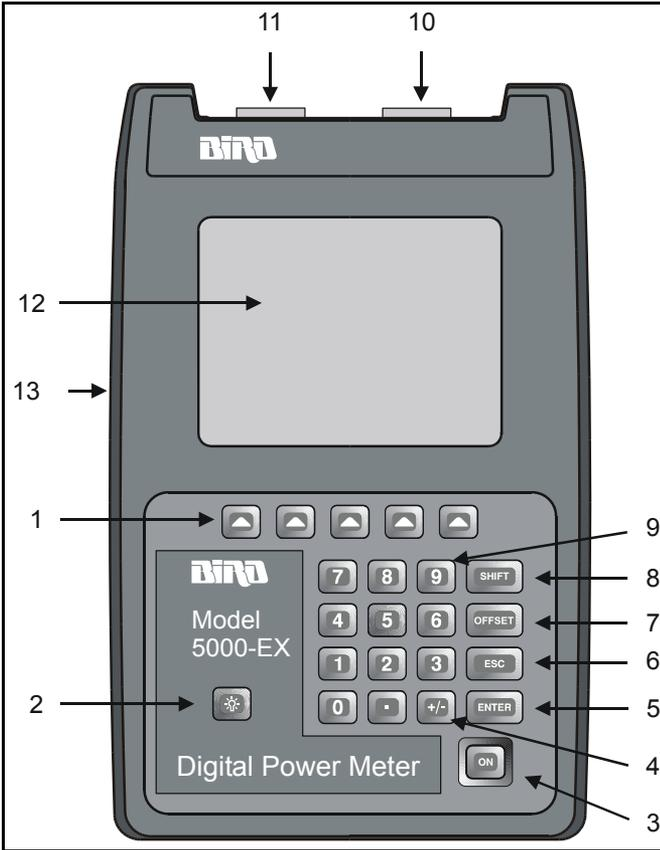

Figure 1 Component Description
Speed keys, which appear under the display, have a different label depending upon the function selected. The names appear at the bottom of the display, directly above the corresponding key. The key names for speed keys are set in bold italic typeface, e.g. *Press the **SCALE** Key.* In this manual, speed keys will also be referred to by number, with speed key 1 being the key on the left. Figure 1 on page 3 shows these speed key numbers.
- **AC Mains Adapter** — To use the ac adapter, insert the adapter's barrel connector into the DPM's external dc connector (See Figure 1 on page 3). Insert the adapter plug into a wall receptacle.